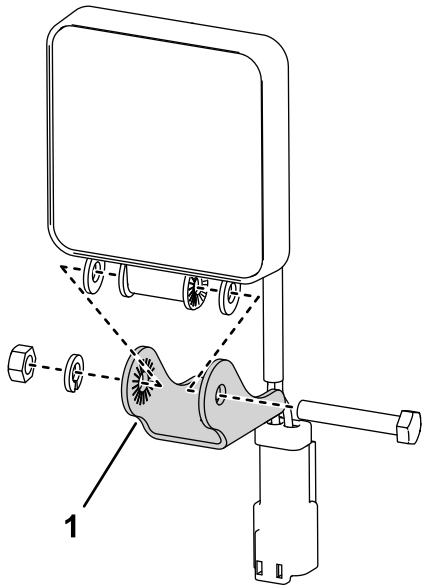

Figure 2
- Remove the small mounting brackets from the work lights Figure 2.